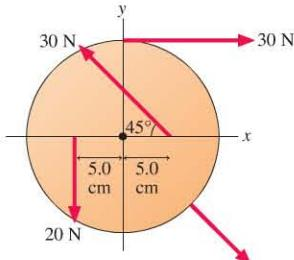

FIGURE P7.49
49. ||| The 20-cm-diameter disk in Figure P7.49 can rotate on an axle through its center. What is the net torque about the axle?